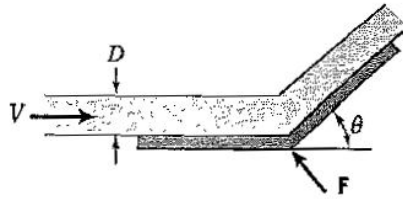

Figure P3.59
3.59 A horizontal jet of air of width W strikes a stationary scoop with a velocity V , as indicated in Figure P3.59. If the jet height h remains constant as the air flows over the plate surface, find: